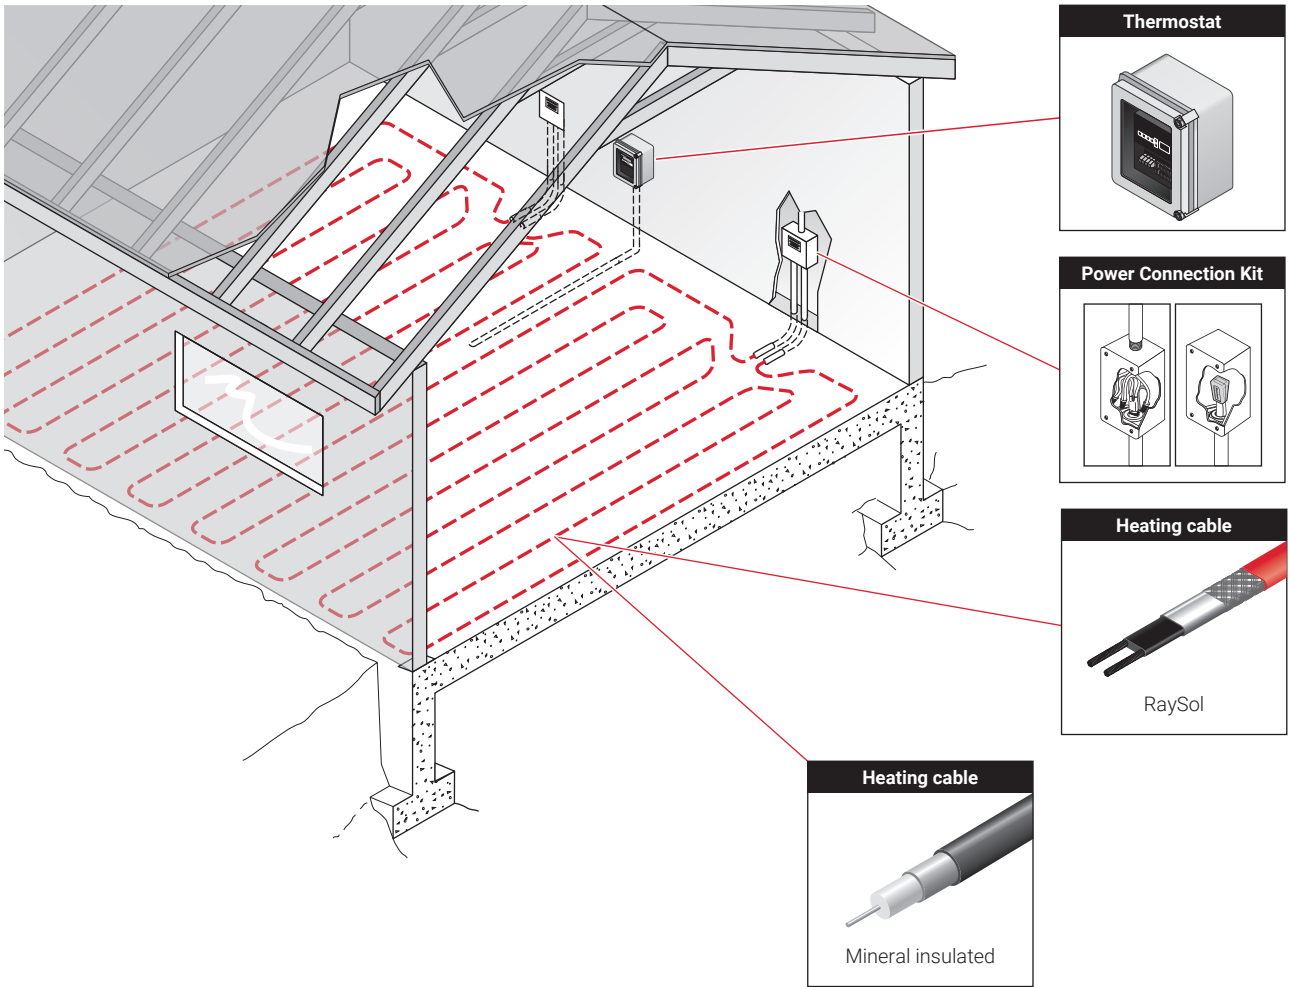

Fig. 3 Typical comfort floor heating system
A radiant space heating system is similar to the illustration in Fig. 3. RaySol heating cable systems must be custom designed through nVent. Contact your nVent representative or call (800) 545-6258 for design assistance.